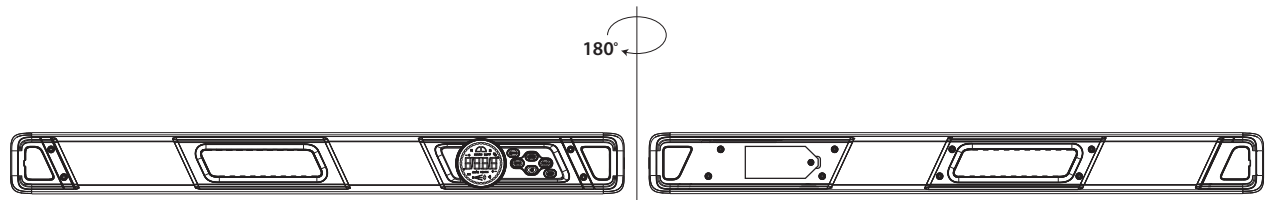

Figure 4
- Press (1) to turn the device off. Place the device on a flat surface. Press and hold (3), and then press (1) until **CAL1** appears on the display (8).
- Without moving the device, press (3). **CAL1** starts flashing and then changes to **CAL2**.
- Rotate the device 180°, and then press (3). **CAL2** will start flashing. When **CAL2** changes to **CAL3**, the horizontal calibration is complete (Fig. 4).